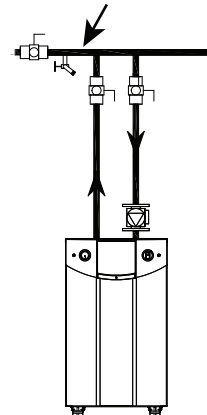

Fig. 94 – Mounting Location for System Sensor
1. Install the System sensor at the location shown in Fig. 94. Connect the System sensor to the System terminals on the controller acting as the Lead/Lag Master (usually the Primary controller on Boiler 1.) Use terminals 3 and 4 on TB6.